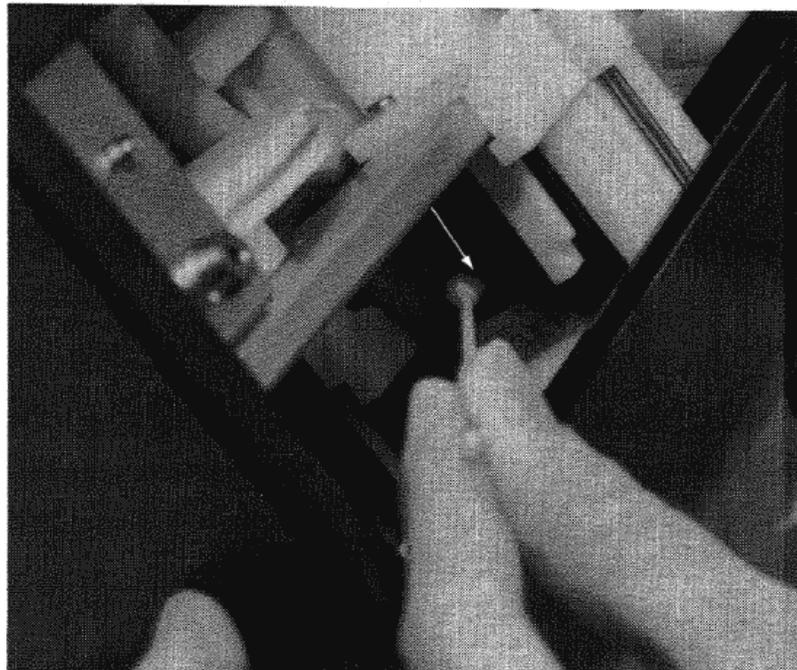

Figure 27. Cleaning the sensor with the fast method
Step 5. Clean the sensor with the swab (Figure 27).